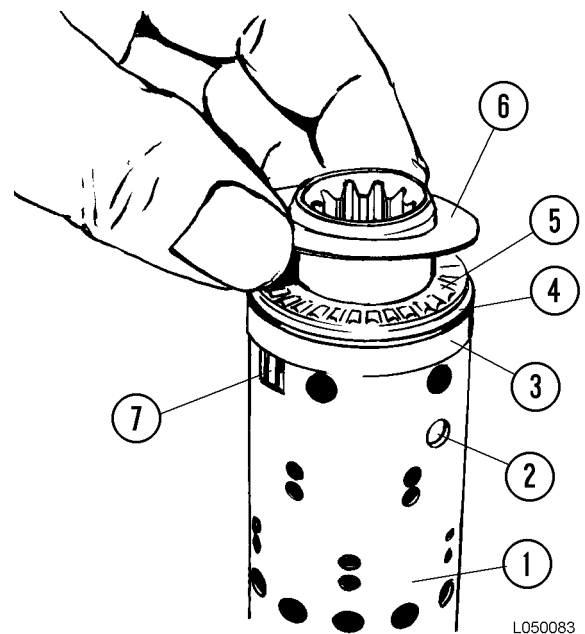

FIGURE 50-10. BEARING INSTALLATION
7. Install cross pin (2, Figure 50-10).
8. With neutral position springs (7) centered in spool and sleeve, install ring (3), rear bearing race (4), thrust bearing (5) and front bearing race (6) in that order. The chamfer on the rear bearing must be facing away from the bearing.